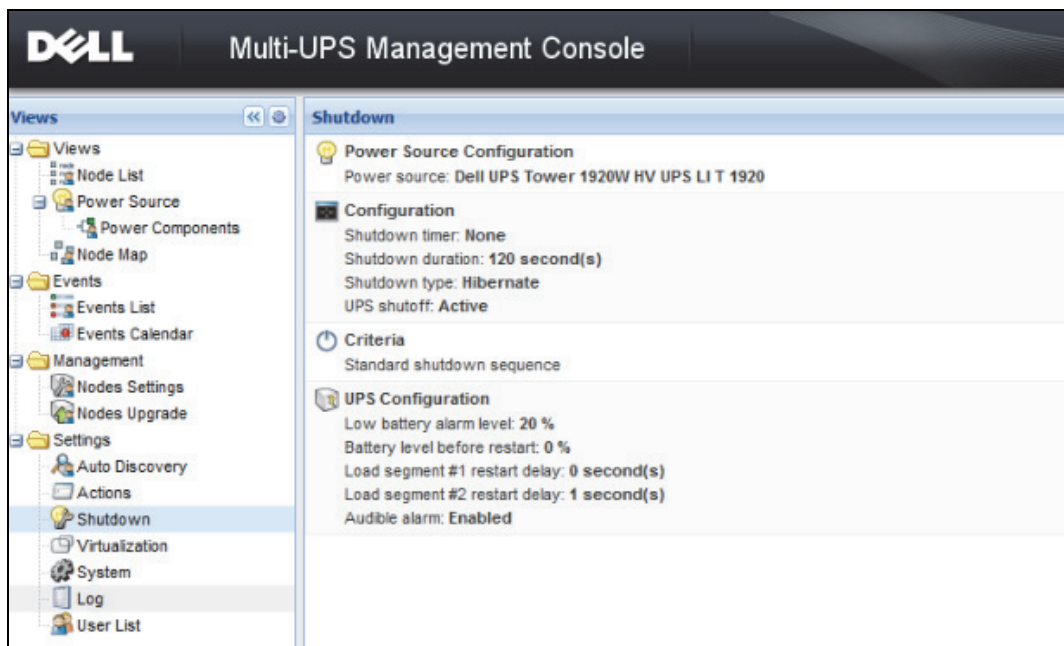

Figure 49. Shutdown Page
- 2 Select **Settings > Shutdown**. The Shutdown page is displayed (see Figure 49).